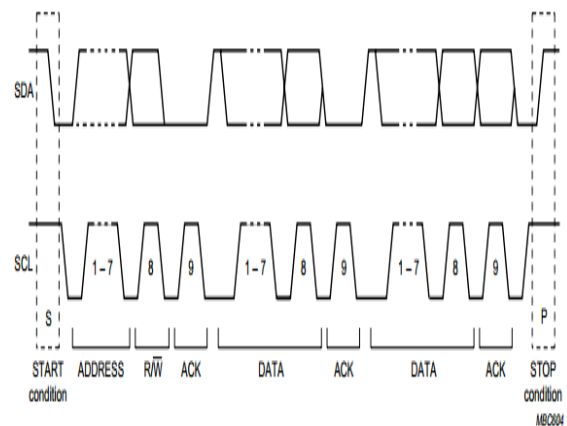

Fig.9 Address is sent after START condition
After the START condition (S), a slave address is sent (see Fig.9). This address is 7 bits long followed by an eighth bit which is a data direction bit (R/W), the bit of (R/W) is "Zero" which indicates a transmission (WRITE), if it's "One" which indicates the master will read data from the slave. The 7-bit address determines which slave will be selected by master. When an address is sent, each device in a system compares the first seven bits after the START condition with its address. If they match, the device considers itself addressed by the master as a slave-receiver or slave-transmitter, depending on the R/W bit.